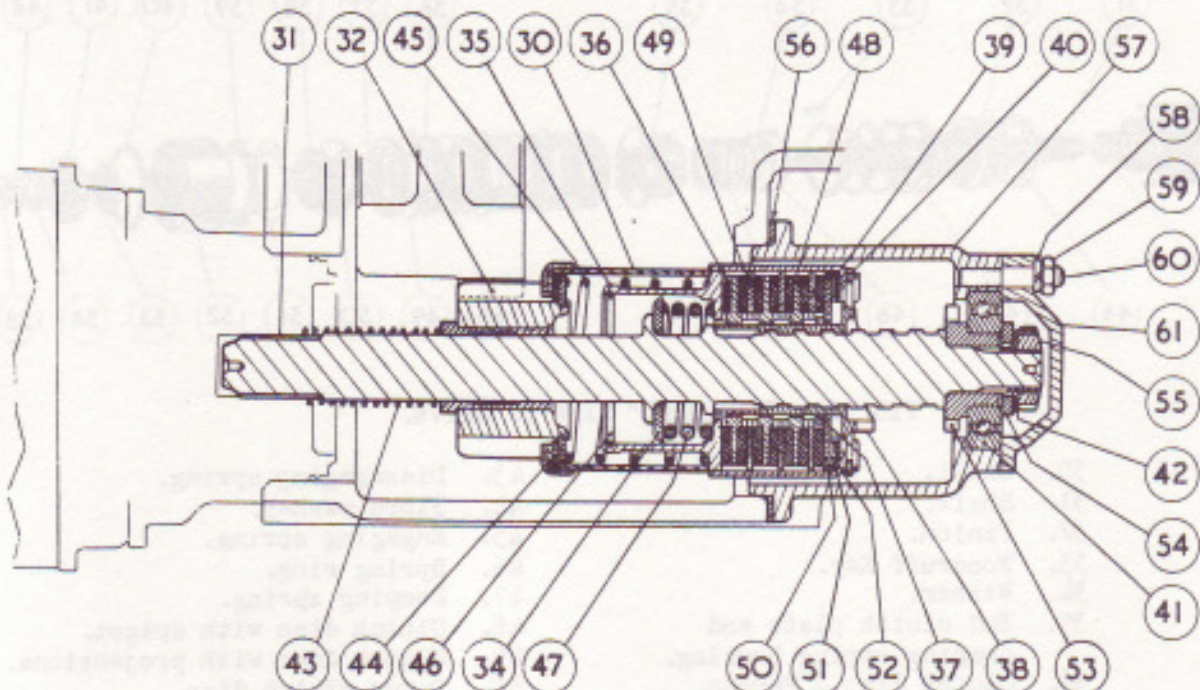

FIG. 17. SECTION THROUGH DRIVE IN ENGAGED POSITION. (A Vellumoid washer is fitted each side of the packing piece 56 on late chassis.)
Do not forget to replace the packing piece (56, Fig.17), should one be fitted. The purpose of this packing piece is to enable the clearance of .150" to .200" between the flywheel and the pinion (as shown in Fig.19) to be obtained upon initial assembly. It is not necessary to check this clearance each time a starter motor drive is removed and replaced, but only when a complete new drive is fitted or when new parts other than clutch discs are fitted to the drive. This clearance can be determined by measuring the distance from the front face of the pinion to the joint face of the housing (57) with a depth gauge, and then, after allowing for the thickness of the packing piece (56), subtracting this figure from the distance of the flywheel from the clutch case joint face. All later chassis are fitted with a Vellumoid washer each side of the packing piece in addition to the one between the motor and the clutch casing
- (i) Remove the small aluminium cover (61, Fig.17) secured by 3 nuts and spring washers.
- (ii) Mount the drive vertically in a vice, holding it by means of fibre vice clamps on the splined end of the shaft and after bending back the tab of the lock washer (42), unscrew and remove the slotted ring nut (55) and then remove the lock washer and plain washer (54). Remove from vice.